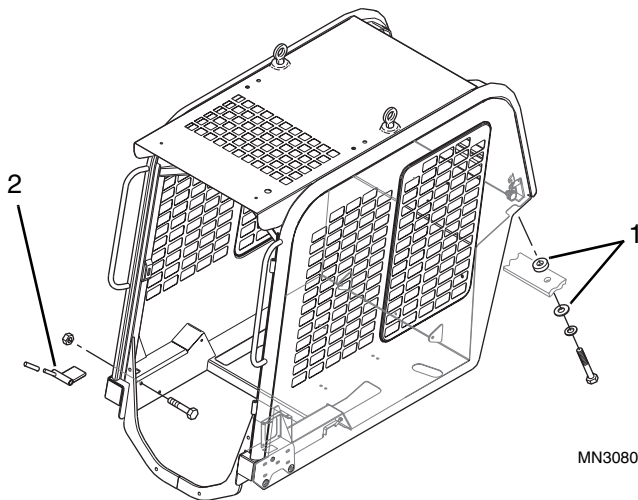

Figure 9-54 Operator Protective Structure
2. Check the condition of all neoprene isolator washers (Fig. 9-54, 1) and tilt lock latch (2). Replace if damaged.